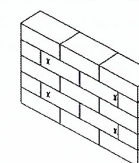

Fig. 4
- 2 While another person holds the mount in place, mark four locations on the wall for securing the mount (see Fig. 4).